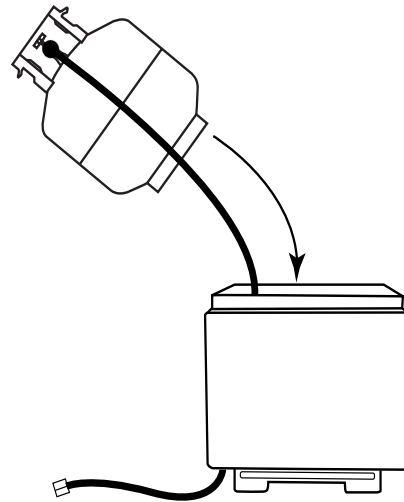

Fig. 2 Installing LP tank and regulator hose.
Step 4: Attach the LP gas regulator to the LP tank and carefully sit the tank inside of the enclosure and feed the regulator hose through one of the bottom vents of the enclosure. Tank will sit centered inside the enclosure and sit up right. See Fig. 2.